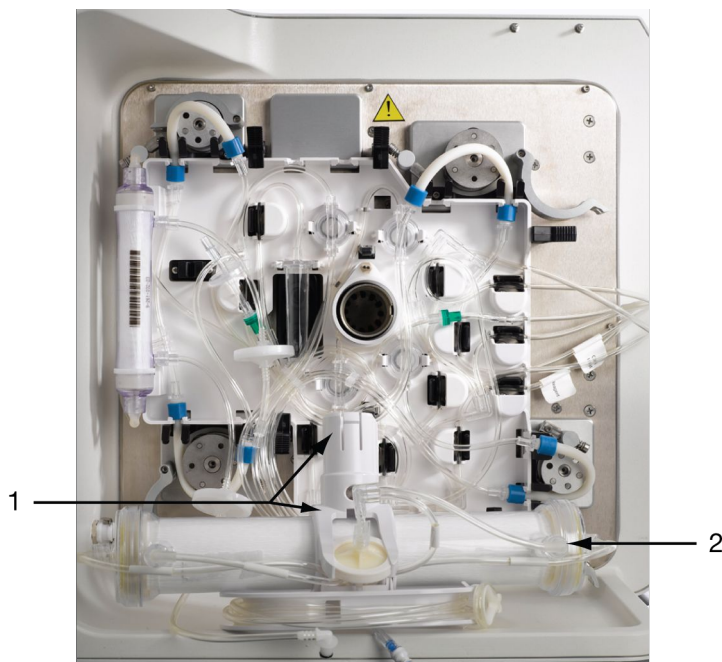

Figure 7-3: Tubing organizer attached to the mounting plate
- Rest the bioreactor with the attached rocker assembly on the spill tray of the Quantum device, as shown in Figure 7-3.
11. Press on the sides of the tubing organizer to snap it onto the mounting plate, and ensure that all five external mounting clips lock over the edges of the tubing organizer. Figure 7-3 shows the tubing organizer attached to the mounting plate.